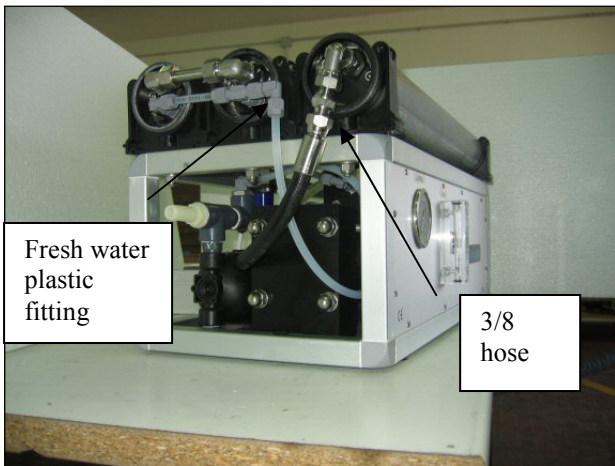

Fig.2 – Left view
13) Reconnect, on the left side of the watermaker , the 3/8 high pressure and the fresh water plastic fitting (fig. 2)